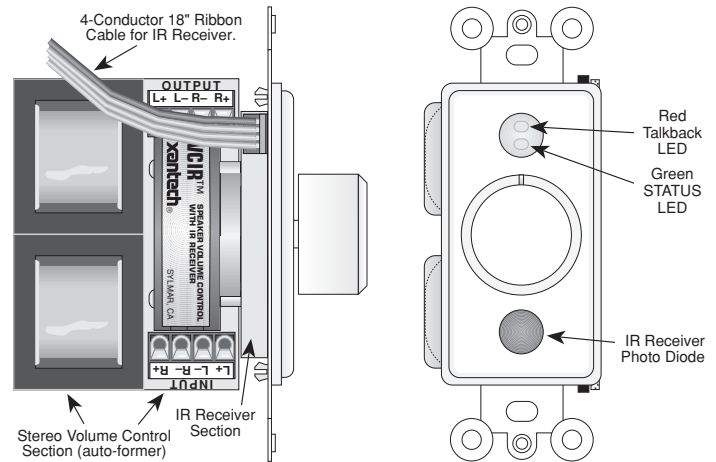

Fig. 1 The VCIR
2. **Important:** Be sure to orient the unit so that the IR Receiver Photo Diode (the dark colored window) is **below** the knob as illustrated in **Fig. 1**. Since hand operated wall units are typically mounted 4 feet above the floor, this orientation prevents the knob from blocking the IR signal when sent from a sitting position.